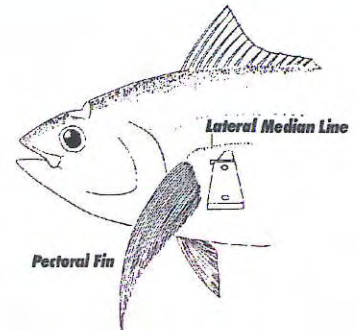

Figure 6. Bleed fish by cutting behind the pectoral fin.
- Step 1** Locate a spot the width of three fingers behind the base of the pectoral fin and about 1/4 inch below the lateral median line which extends along the side of the fish (Figure 6).